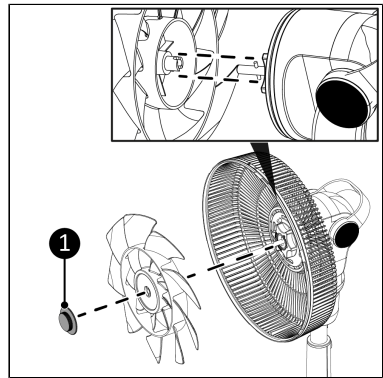

Figure 30.
13. Place the blade nut (Figure 30, pos. 1) and turn it counterclockwise to secure the fan blades.